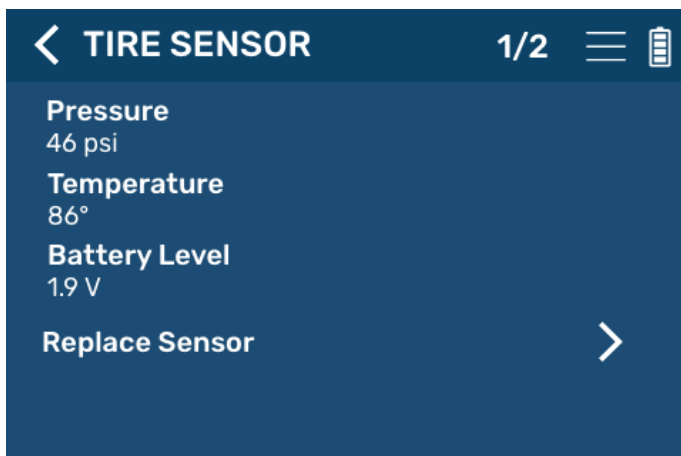

Fig.47
1. Tap a tire location (Fig.46) to launch its properties window (Figs.47 and 48). Within the selected tire's properties window, various tire and sensor specifications can be observed and altered.